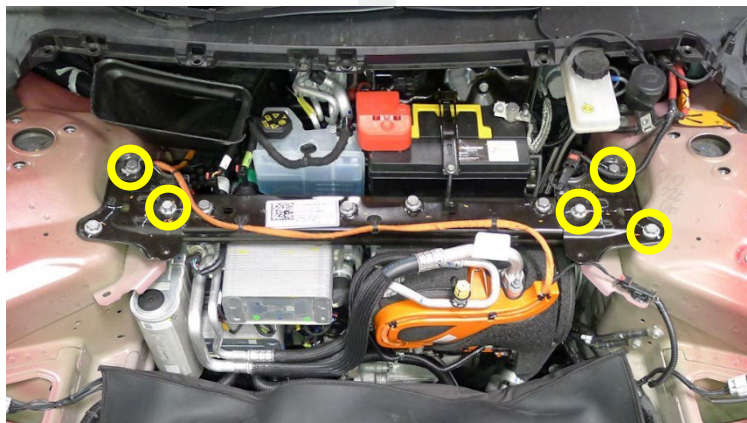

Figure 3
6. Remove the remaining shock tower brace bolts (x5) (Figure 3), and shift the shock tower brace forward on the LH side.